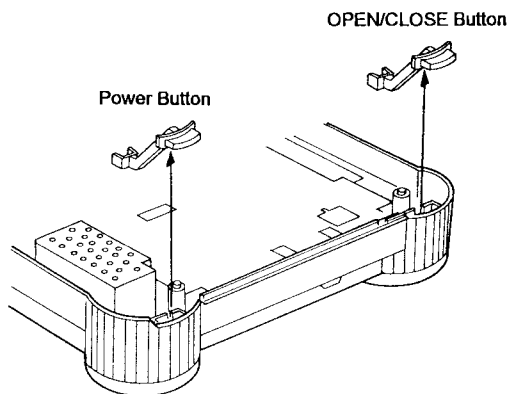

Figure 7
- (1) After removing the top case, the CD-ROM drive, the power transformer, and the fan motor, raise the power button and the open/close button as shown in Figure 7.